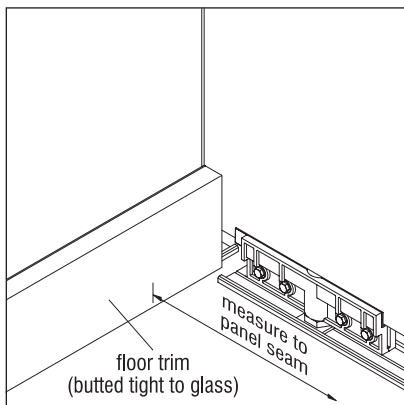

Figure 5 - Measure To Panel Seam
2. Install the first cut trim to the base trim retainer clip installed on floor channel (see page 29), butting it tight to the surface of the adjacent glass panel (Figure 5).
3. Measure from the inside surface of the previously installed trim to the furthest panel seam that the 10' trim section can reach. Cut trim to that dimension (Figure 5).